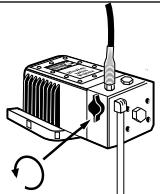

Figure 4 - Turn Prime/Spray Control
- Turn Prime/Spray Control to the Prime position (See Figure 4).